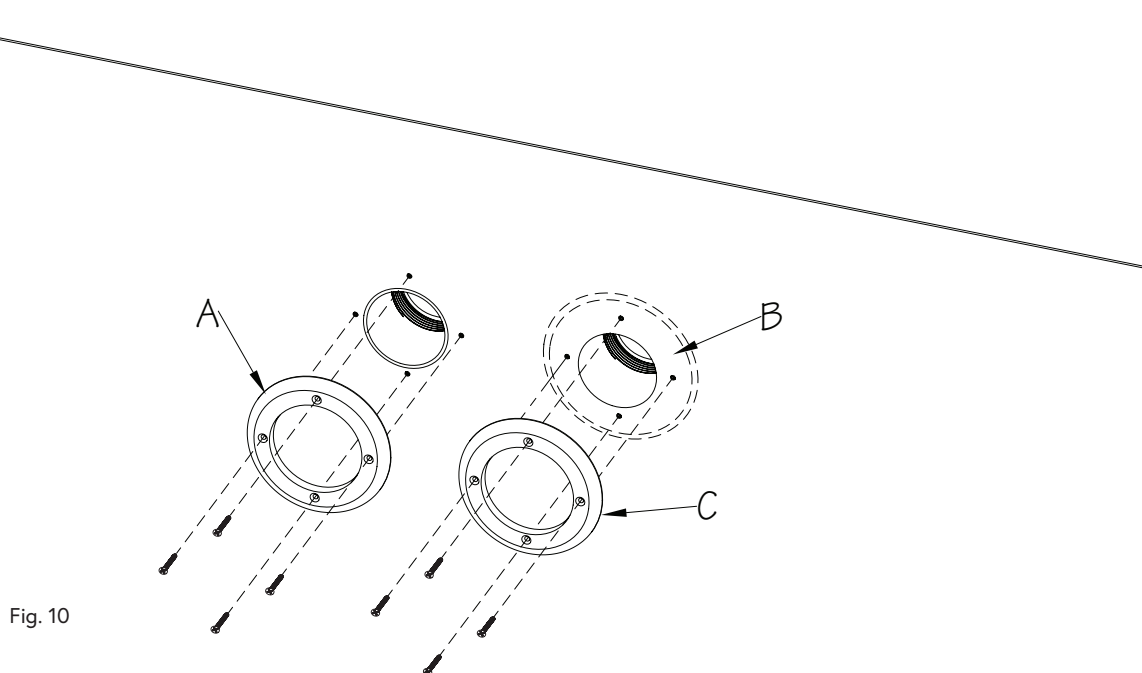

Fig. 10
9. Remove the Faceplates (A) after the holes have been cut in the liner. Spread a thin layer of silicone on the face of the black gasket (B) that is adhered to the Star Thru-Wall Fitting (behind the liner). Spread a thin layer of silicone on the back of the Faceplate (C). Re-attach the Faceplate and allow the silicone to cure (Fig. 10).